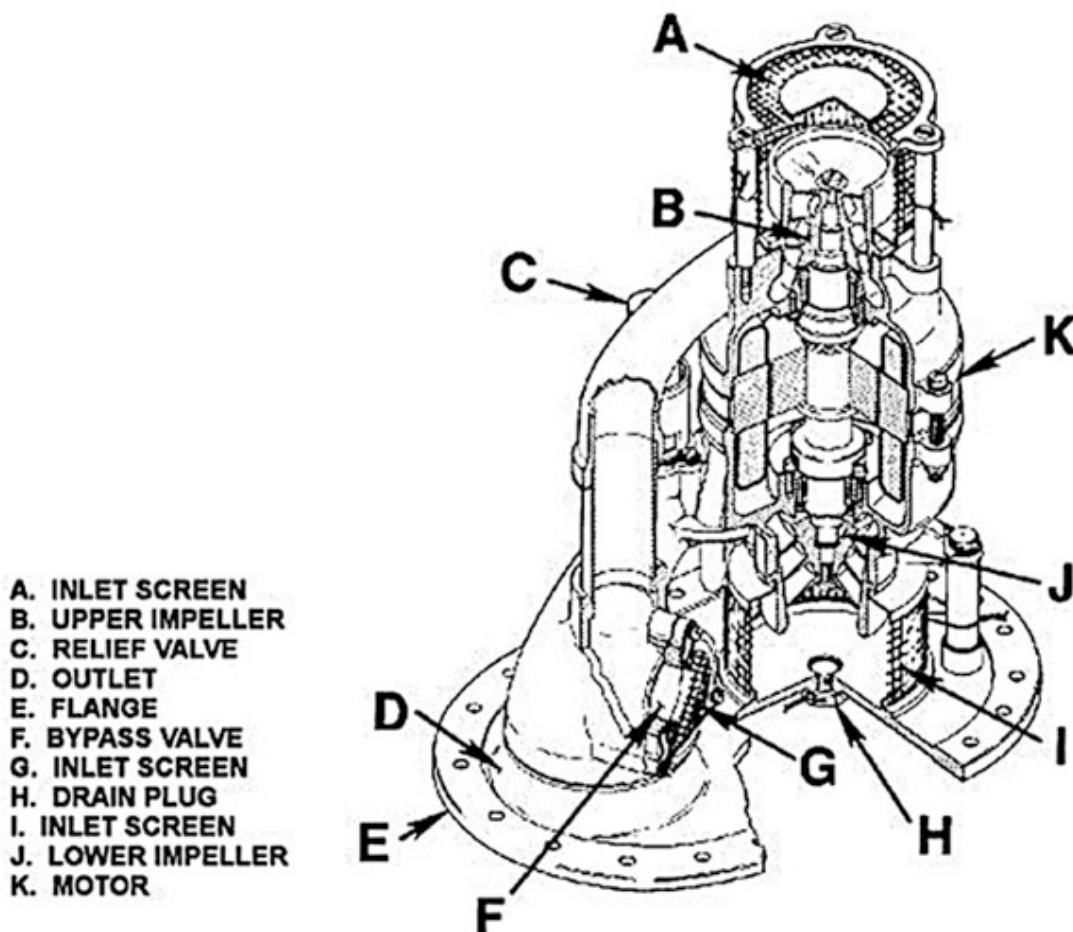

Figure 1-2. Dual-impeller pump.
Many pumps incorporate a spring-loaded flapper, which is used as a bypass valve. Locate item F in figure 1-2. During normal pump operation, fuel pressure holds the valve closed. However, when the pump is inoperative, the weight of the fuel in the tank forces the flapper open and the fuel bypasses the impeller section. An inlet screen is also installed to prevent debris from holding the valve open. An open valve causes fuel to be discharged back into its own tank.
Notice in figure 1-2 that there are two inlet wire mesh screens (A and I) covering the pump impellers. These are used to prevent large debris such as tools, nuts, bolts and cheesecloth from entering either impeller (B or J). In some instances, the function of the upper impeller (B) is to supply fuel to the engines during inverted flight or negative G (gravity) conditions. Both impellers are driven by the same electrical motor (K). There is also a pressure relief valve (C) to prevent pressure buildup in the outlet (D) and related tubing when the valves are closed downstream. The mounting flange (E) permits pump removal without requiring you to enter the tank. The bypass valve (F) permits gravity flow to the engines. To prevent foreign objects (FO) from holding the bypass valve open, an inlet screen (G) is provided. The drain plug (H) is normally a quick-shutoff type valve that's operated remotely, rather than with the screw plug shown.